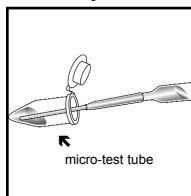

Figure 3
3. Fill the micro-test tube approximately half-way with the sample to be tested (fig. 3).
5. Holding the VACUette almost horizontally, touch the tip to the contents of the micro-test tube (fig. 3).